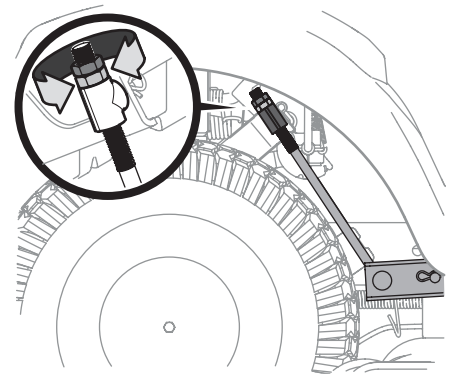

Figure 4-9
3. Under the rear fenders inside the wheels there is a lift adjustment rod for each side of the deck. See Figure 4-9.